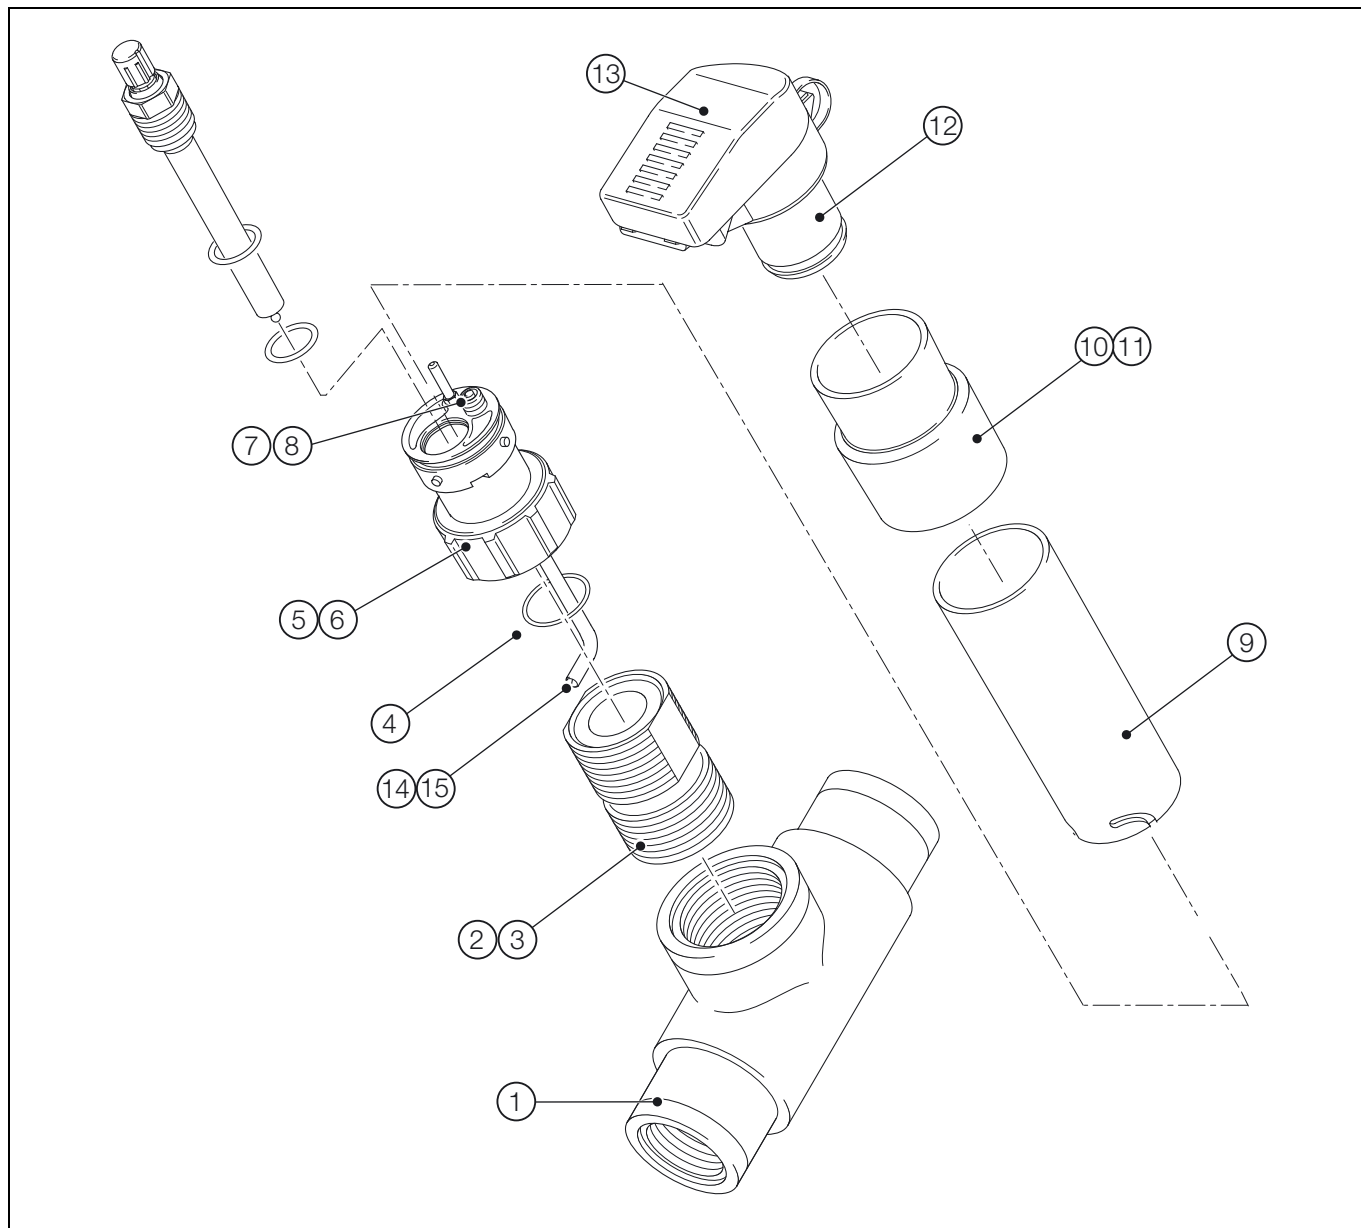

Fig. 7.2 Model AP202 Inline System Spares
7.2 Model AP202 Inline System – Fig. 7.2